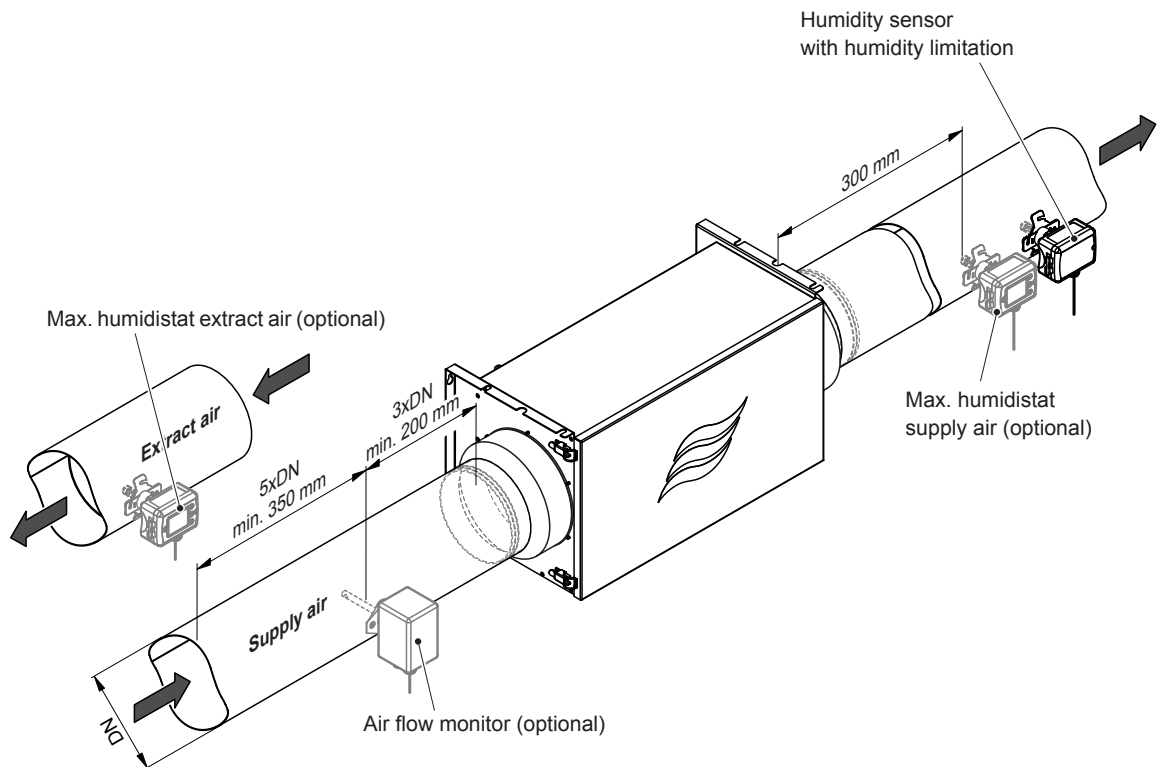

Fig. 22: Positioning the humidity and temperature sensor and monitoring devices for extract air control
1. Drill the insertion hole for the sensor ($\varnothing 16$ mm) into the ventilation duct (see Fig. 22 for positioning).